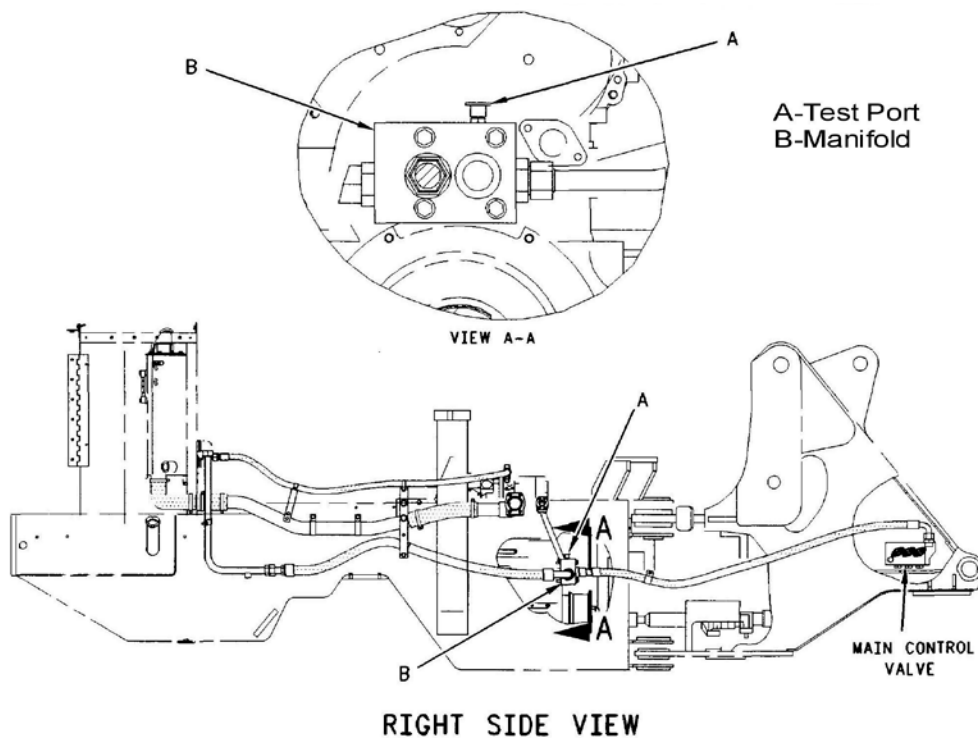

Figure 1-63. Main relief valve test port location.
1. After hydraulic pressure is released, install specified hydraulic pressure gauge in test port (A) on the manifold (B) located on right side of vehicle (fig. 1-63).